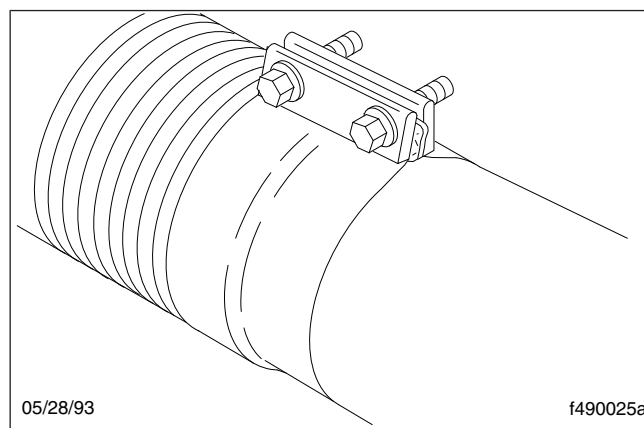

Fig. 8, Donaldson SealClamp Wide-Band Exhaust Clamp
8. Check for leakage at all wide-band exhaust clamps. See Fig. 8.